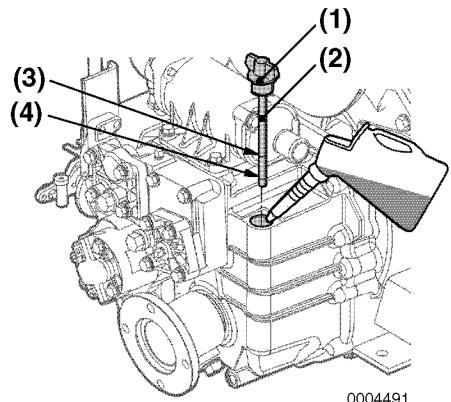

Figure 9
2. Remove the filler cap (**Figure 9, (1)**) at the top of the housing.
3. Remove dipstick (**Figure 9, (2)**) and wipe with clean cloth.
5. Remove dipstick. The oil level should be between upper (**Figure 9, (3)**) and lower (**Figure 9, (4)**) lines on the dipstick.
3. Fill with oil to the upper limit on the dipstick (**Figure 9, (3)**). See *Marine Gear Oil Specifications* on page 41.